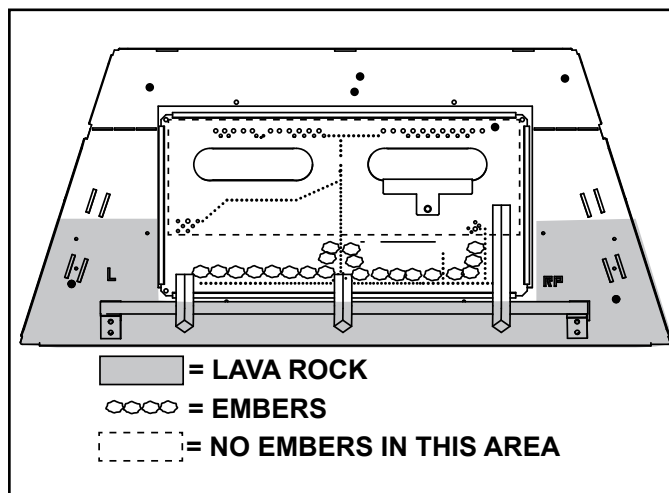

Figure 11.3 Placement of Embers
See Figure 11.3. Place a small amount of 1/2 in. diameter pieces (dime-size) of ember material on the burner top. Be careful not to cover burner ports. It is not necessary to use the entire bag. Save the remaining amount for future use.
- Place dime-size pieces of Glowing Embers® just in front of the port trail, but not on or in between the ports. See Figure 11.3. Care should be taken so that the ports are not covered. Failure to follow this procedure will likely cause lighting and sooting problems.